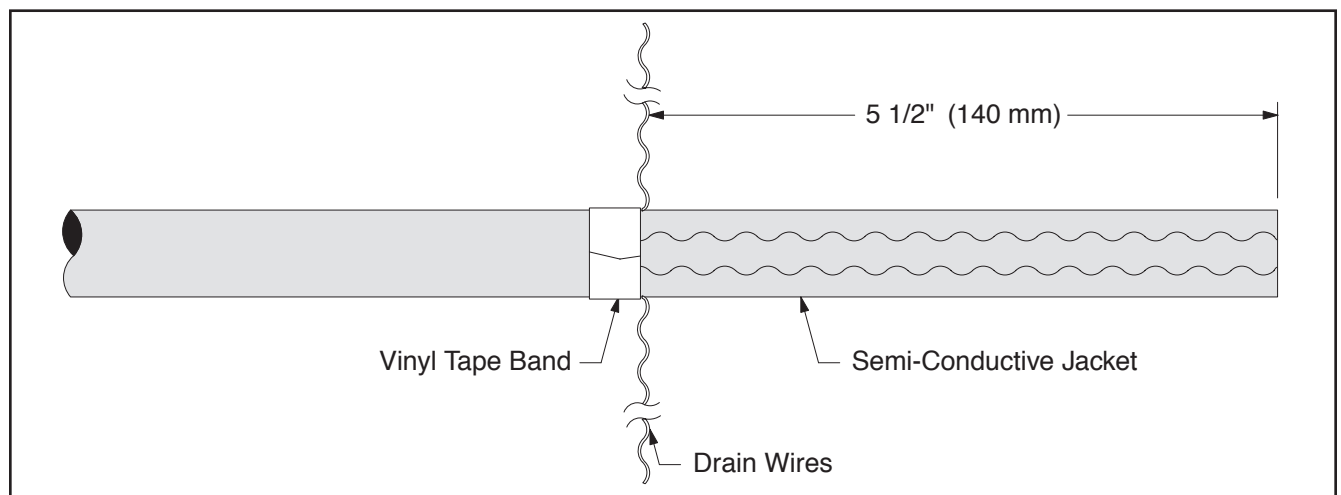

Figure 3
- b. Wrap a vinyl tape band around cable jacket at a point 5 1/2" (140 mm) from cable end and remove drain wires from semi-con jacket to the leading edge of applied vinyl tape band (Figure 3).